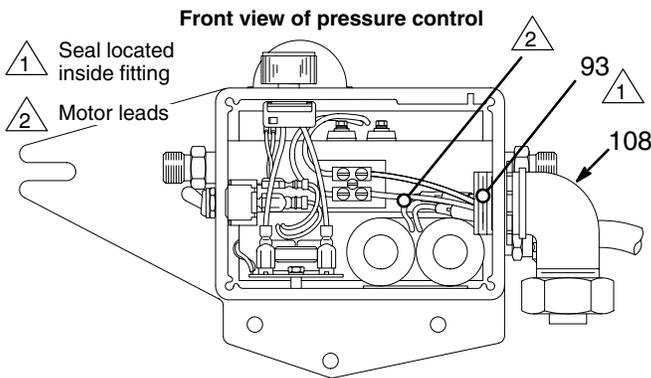

Fig. 22
2. Disconnect the main hose (47).
3. Disconnect the drain tube (101) from the pump (39) and suction tube.
4. Loosen the filter bracket nut (28). Remove the filter.
5. Remove the pressure control cover (36). Disconnect the four motor leads. See Fig. 22.
6. Unscrew the connector from the pressure control. Loosen the nut on the connector (108) and pull the conduit (22) and motor leads out of the pressure control.
7. Remove the pressure control mounting screws (37). Remove the pressure control. Install the connector (108) on the new pressure control.
8. Install the new pressure control. Place the seals (93) around the motor leads and push the seals into the connector (108). Be sure to install the gaskets (108). See Fig. 22.
**NOTE:** A replacement circuit breaker (109) is available.